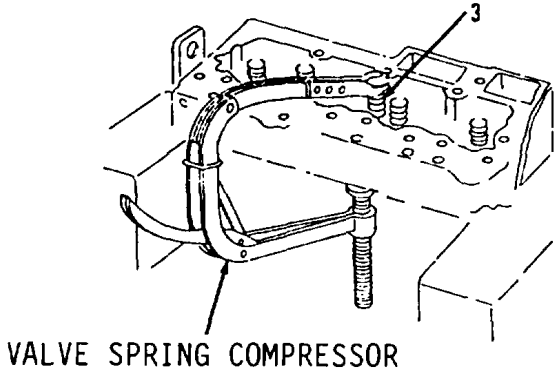

Figure 3-64.
- 3. Position valve spring compressor on top of valve spring (3, Figure 3-64).